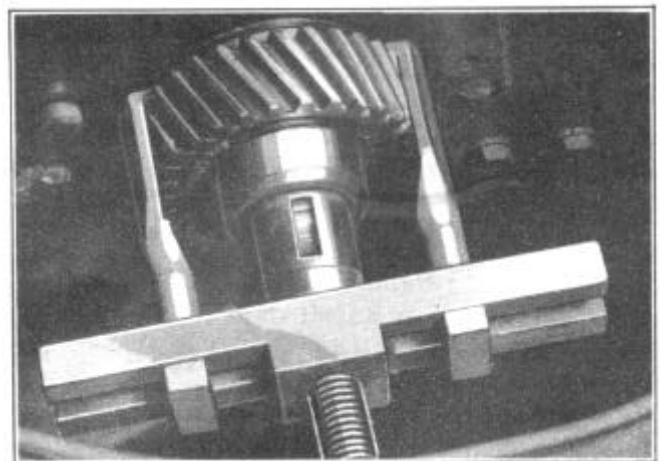

FIGURE 38
6. Using puller S-471, remove crankshaft gear, Figure 38.
2. Using Puller-471, remove crankshaft gear, Figure 38.